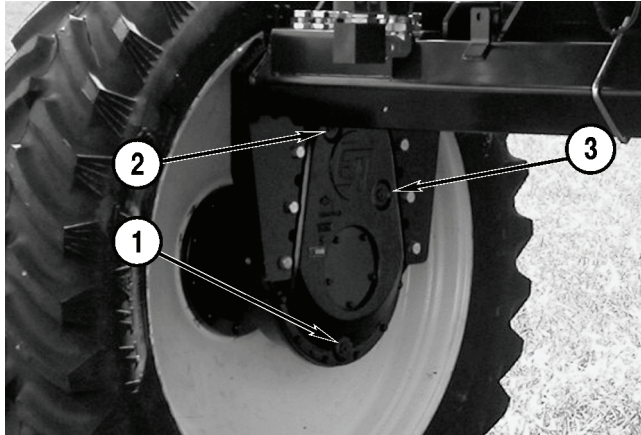

Figure 5-70
The drop box drain, level and fill plugs are located on the drop box at each rear wheel. The left drop box is shown in **Figure 5-70**.
1. Remove the drain plug (**Figure 5-70, 1**) and drain the fluid into a suitable container.
4. Remove the drop box fill plug (**Figure 5-70, 2**) and level plug (**Figure 5-70, 3**).
5. Add fluid until it is level with the bottom of the level hole (**Figure 5-70, 3**).
6. Install and tighten the fill plug (**Figure 5-70, 2**) and the level plug (**Figure 5-70, 3**).